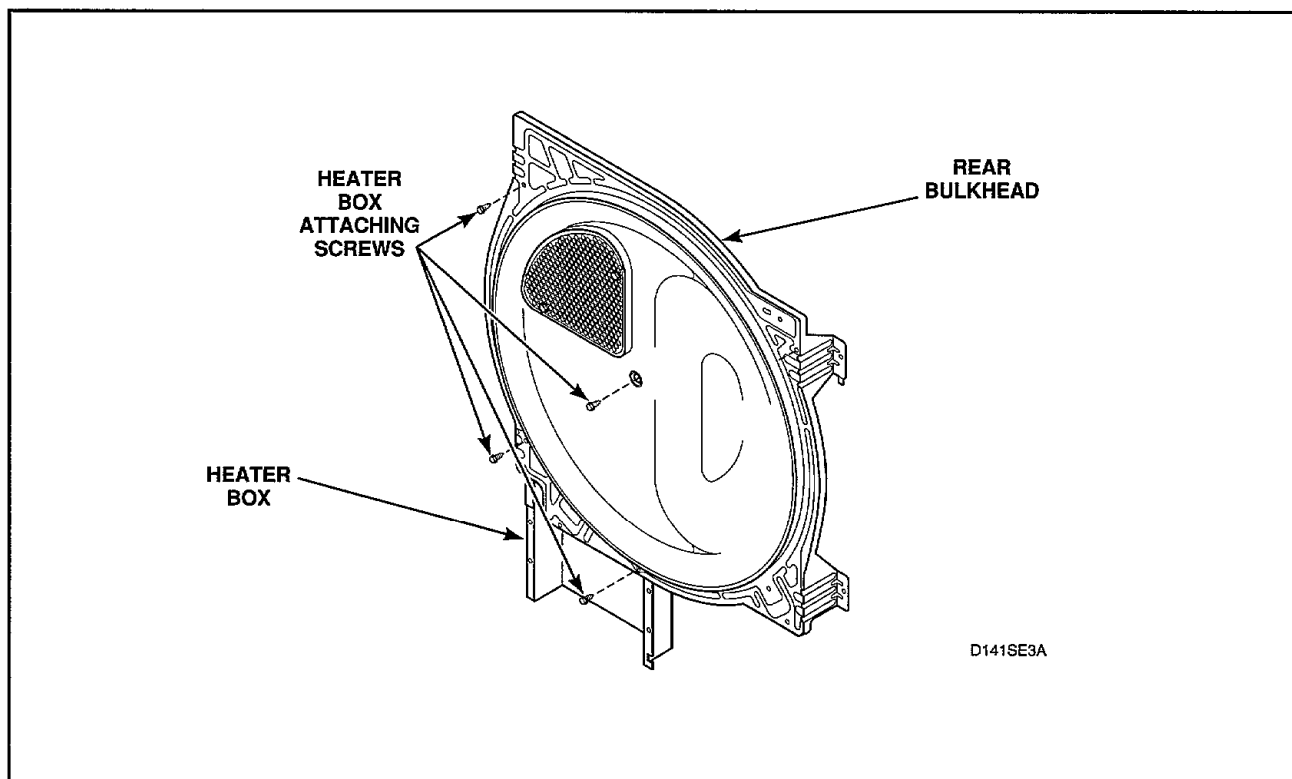

Figure 43
- n. To remove heater box from rear bulkhead, refer to *Figure 43*.